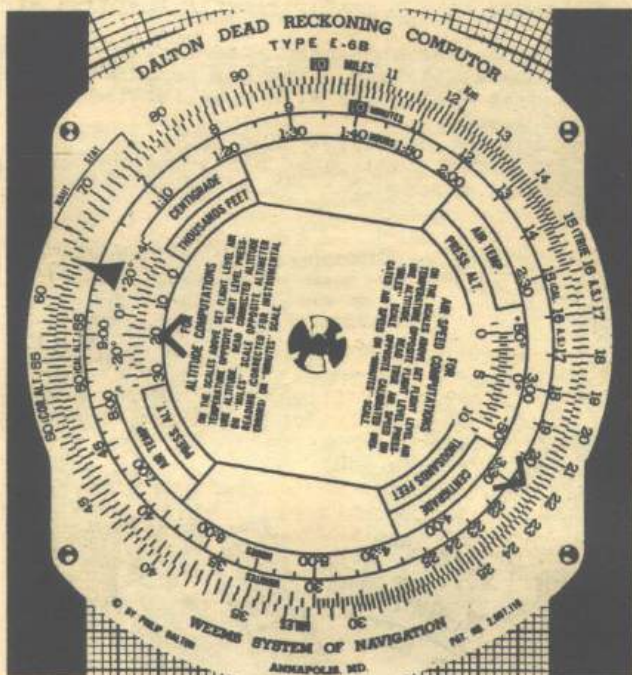

Figure 3
- (b) Opposite 20,800 on the minutes scale, read the true altitude, 22,000 feet on the miles scale. (figure 3)